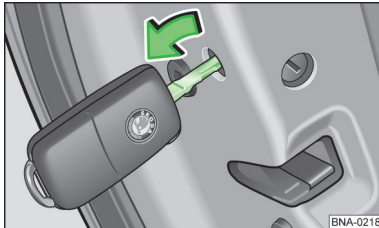

Fig. 72
- Remove the rubber seal in the face of the door. The seal is marked with a lock symbol  » fig. 72.
- Insert the flipped-out key bit into the recess and turn the vehicle key in the direction away from the vehicle » fig. 72.